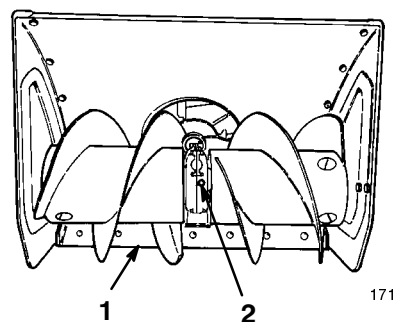

Figure 16
2. Move the snowthrower onto a flat surface and make sure that the scraper (Fig. 16) is parallel to the ground. If it is not, adjust the scraper; refer to *Adjusting the Scraper and Skids* on page 23.
3. Remove the pipe plug from the gear box (Fig. 16).